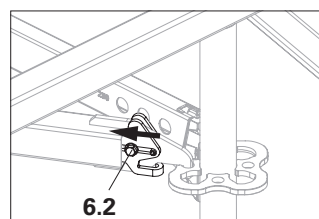

Fig. A1.04c
- Attach hook with slider (**6.2**) to the rosette. (Fig. A1.04c)